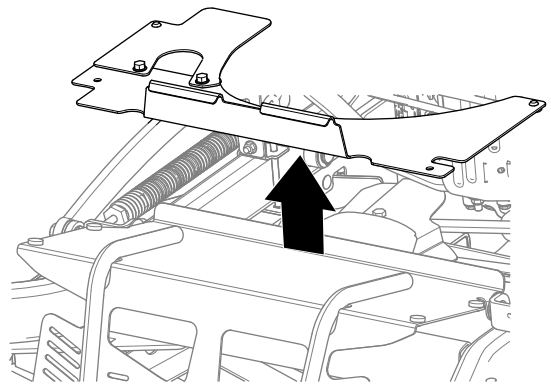

Figure 35
3. Remove the guard extension from the machine (Figure 35).